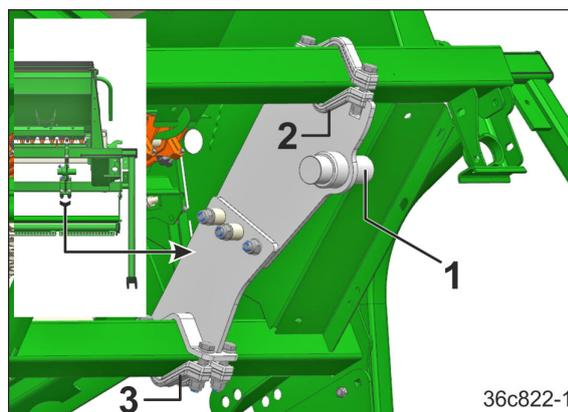

Fig. 125
Each pintle (Fig. 125/1) is fastened on the seed drill frame with 3 clamps:
- 1 clamp at the top (Fig. 125/2)
- 2 clamps at the bottom (Fig. 125/3).